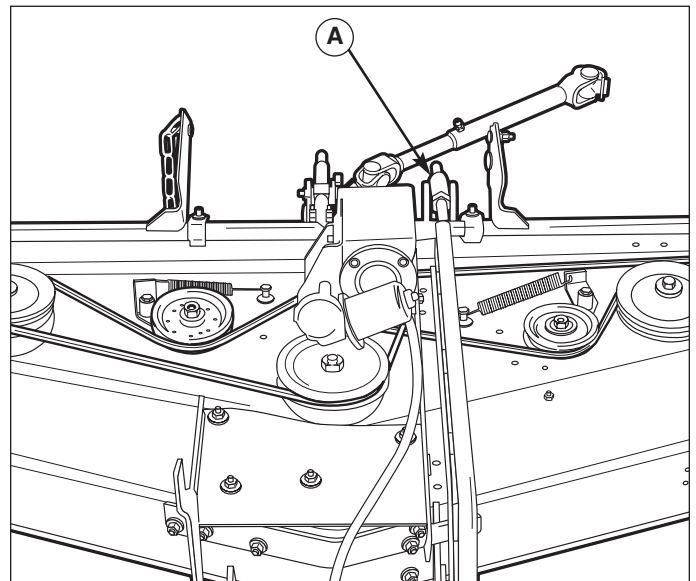

**Figure 46. Side-to-Side Adjustment**
7. See Figure 46. Prevent I-Bolt (C) from turning; then adjust spacer (B) by turning lock nut (A) clockwise (up) or counter-clockwise (down) to achieve correct side to side leveling.